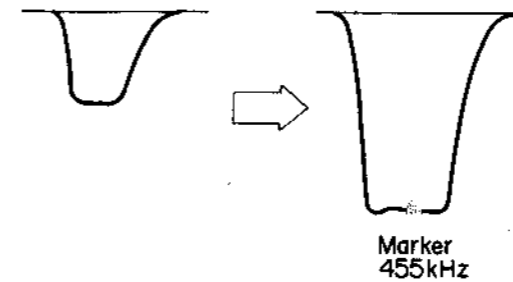

Fig. 3-9 A-M I-F Response
- (2) Turn the top core of IFT 301 to obtain a maximum and symmetrical response. See Fig. 3-9.